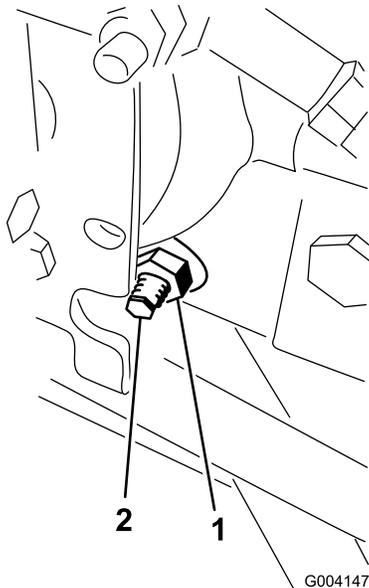

Figure 63
3. On the right side of the hydrostat, loosen the locknut on the traction-adjustment cam (Figure 63).